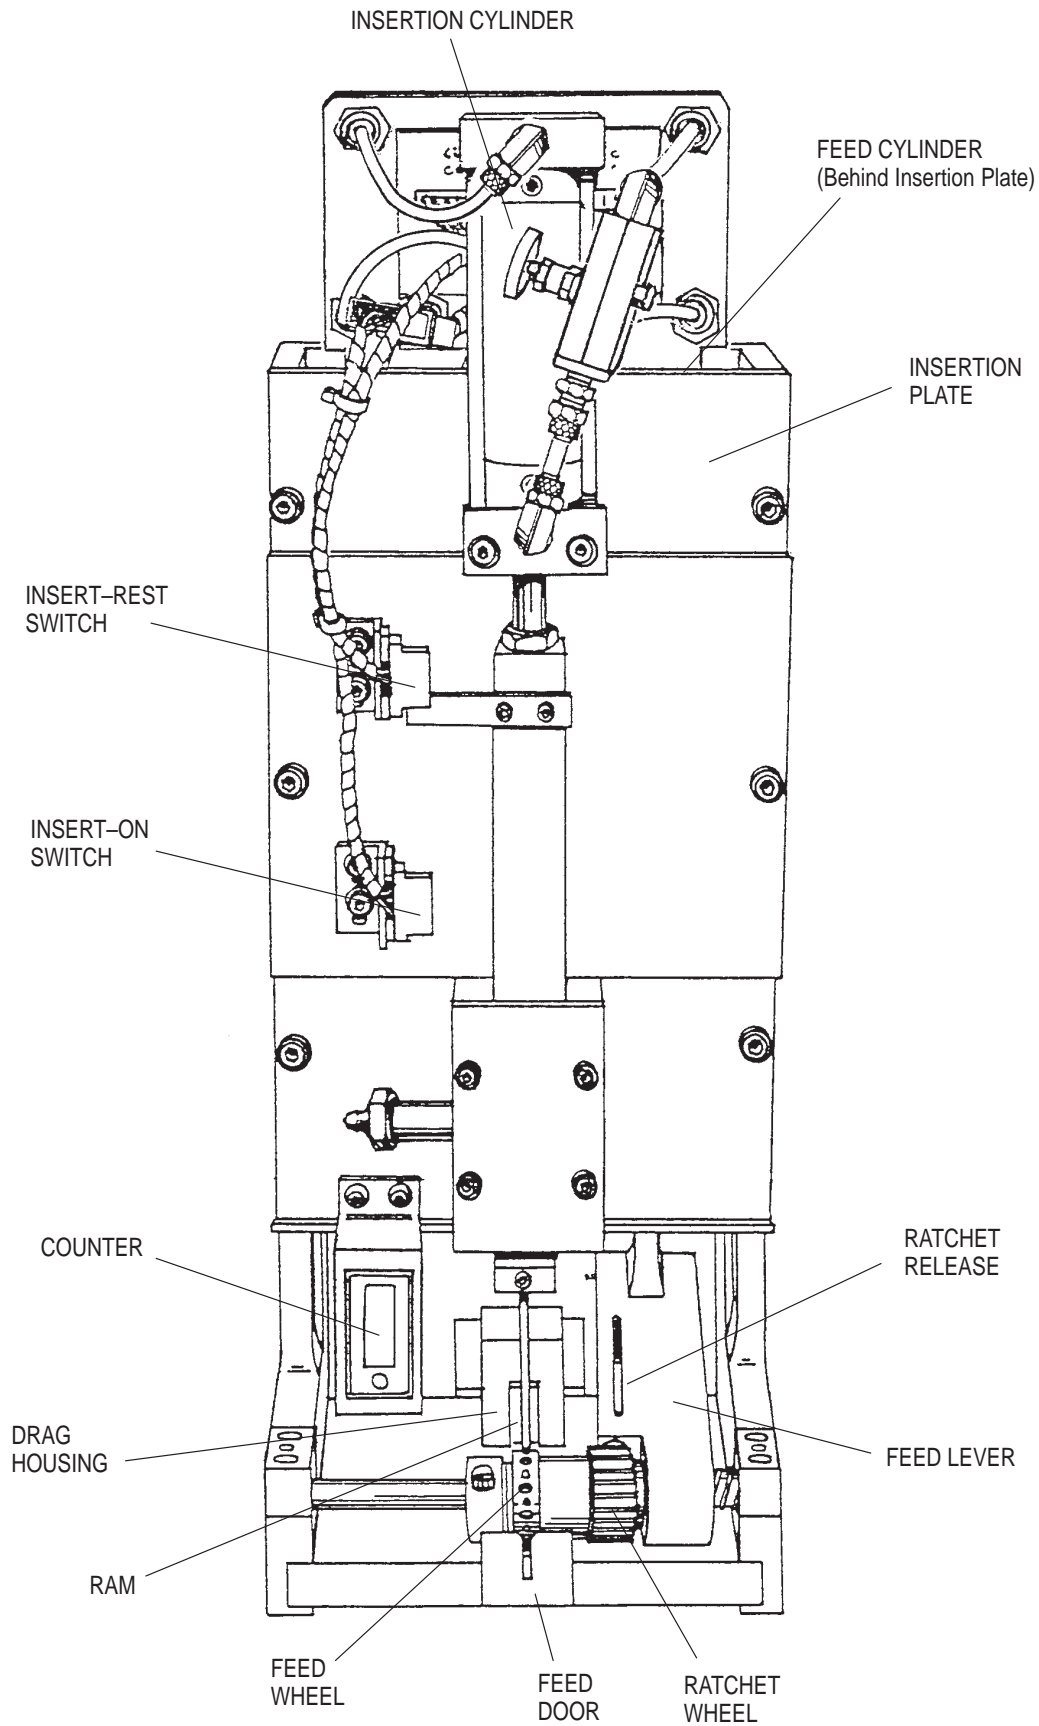

Figure 2-1. Component Identification
2.1. Physical Description (Figure 2-1)